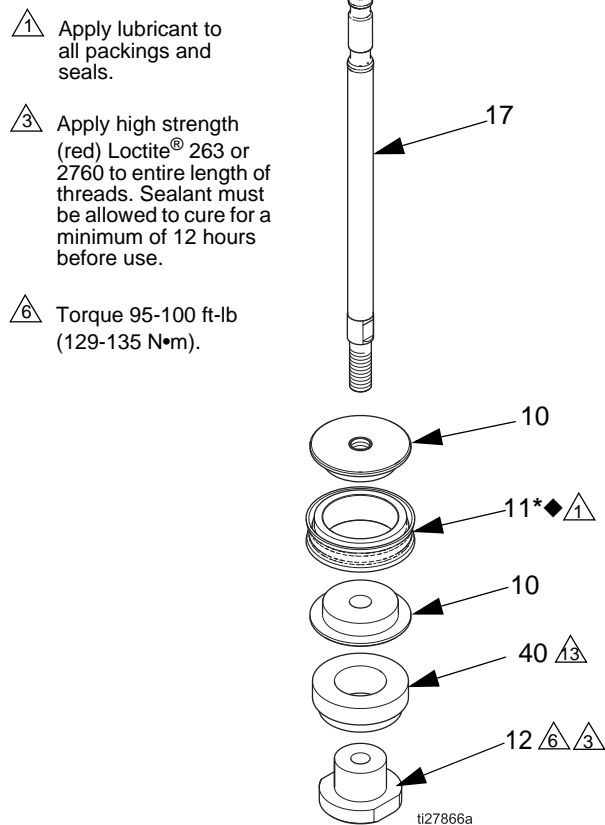

FIG. 2. Disassemble or Assemble the Piston (1000cc, 1500cc, and 2000cc models only)
1. 1000cc, 1500cc, and 2000cc models only: Place the halves of the piston (10) around the piston seal (11◆*) and snap them together. See FIG. 2, page 7.